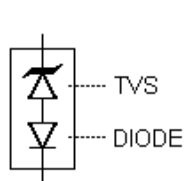
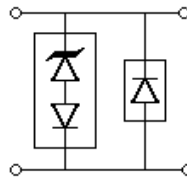

FIGURE 4
FIGURE 5
The TVS low capacitance device configuration is shown in Figure 4. As a further option for unidirectional applications, an additional low capacitance rectifier diode may be used in parallel in the same polarity direction as the TVS as shown in Figure 5. In applications where random high voltage transients occur, this will prevent reverse transients from damaging the internal low capacitance rectifier diode and also provide a low voltage conducting direction. The added rectifier diode should be of similar low capacitance and also have a higher reverse voltage rating than the TVS clamping voltage V_c . The Microsemi recommended rectifier part number for the application in Figure 5 is the "SMBJLCR80" or "SMBGLCR80" depending on the terminal configuration desired. If using two (2) low capacitance TVS devices in anti-parallel for bidirectional applications, this added protective feature for both directions (including the reverse of each rectifier diode) is inherently provided in Figure 6. The unidirectional and bidirectional configurations in Figure 5 and 6 will both result in twice the capacitance of Figure 4.